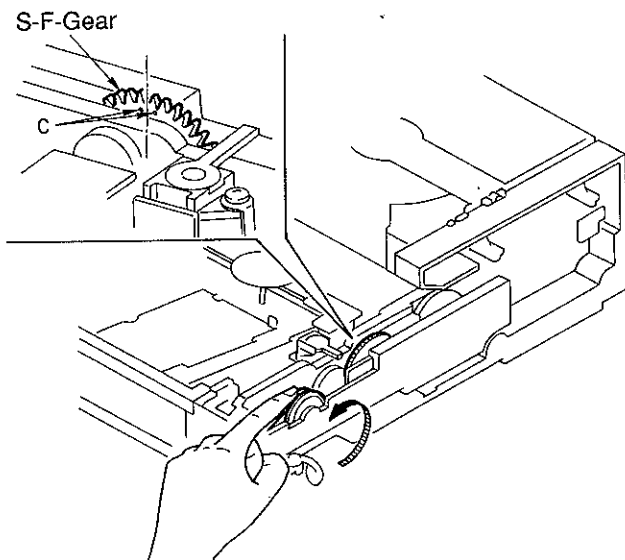

Fig. 2.7.2
- (1) Turn the pulley in the direction of the arrow until it stops. Refer to Fig. 2.7.2.
- (2) Turn the pulley in the opposite direction a little so that the center of two marks (holes) "C" on the S-F-Gear is in the vertical position. Refer to Fig. 2.7.2.